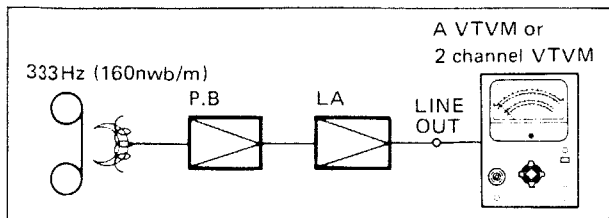

Fig. 7
(4) Playback level adjustment (Refer to Fig. 7)